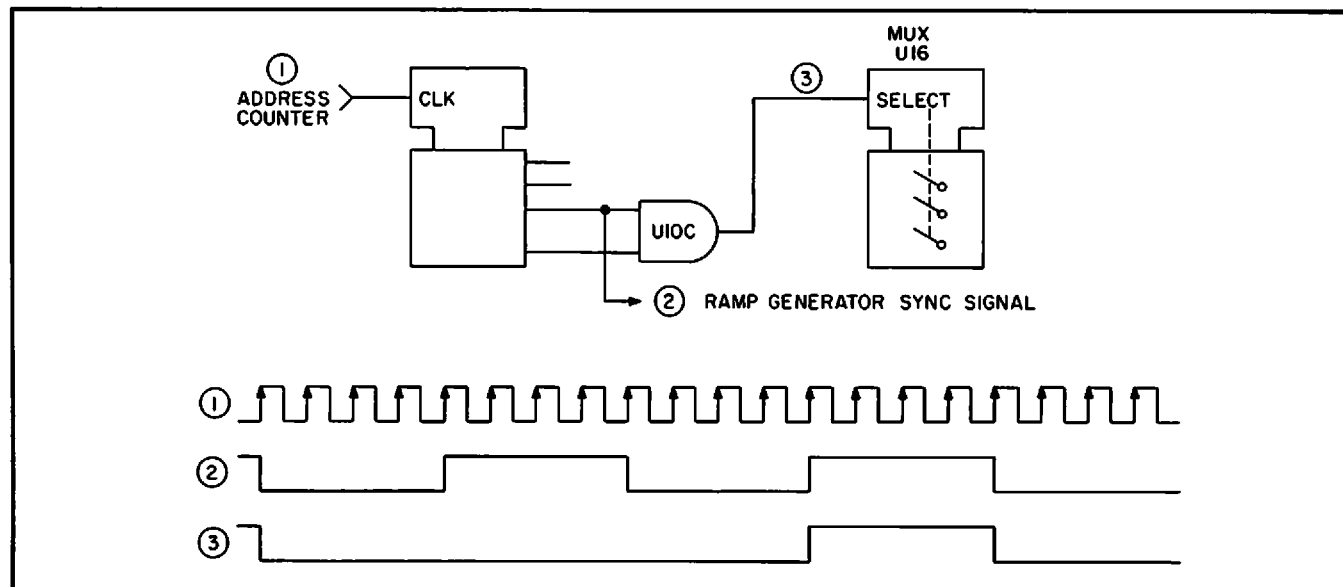

Figure 2-24
3.5.11 Analog Multiplexer (MUX) (Figure 2-24)